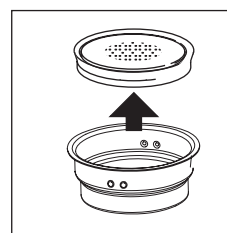

fig. 27
- Remove the crema enhancer from the container by pushing it from the cap end (fig. 27).